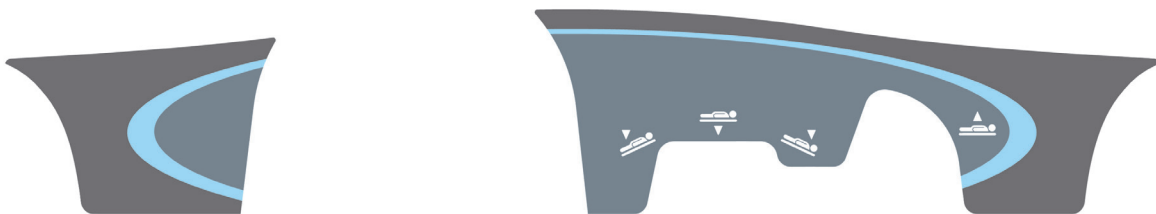

Figure 8: Side Base Control Label
For Trendelenburg positioning (head down) (see Figure 8 on page 23):
For reverse Trendelenburg positioning (foot down) (see Figure 8 on page 23):
- Depress pedal (B) at the foot end of the unit or
- Depress the side of pedal (C), located on the patient left or patient right side, closest to the foot end of the unit.
To lower the stretcher from reverse Trendelenburg position, depress pedal (A) once to raise the foot end of the stretcher, and then depress pedal (C) or (D) (see Figure 8 on page 23).